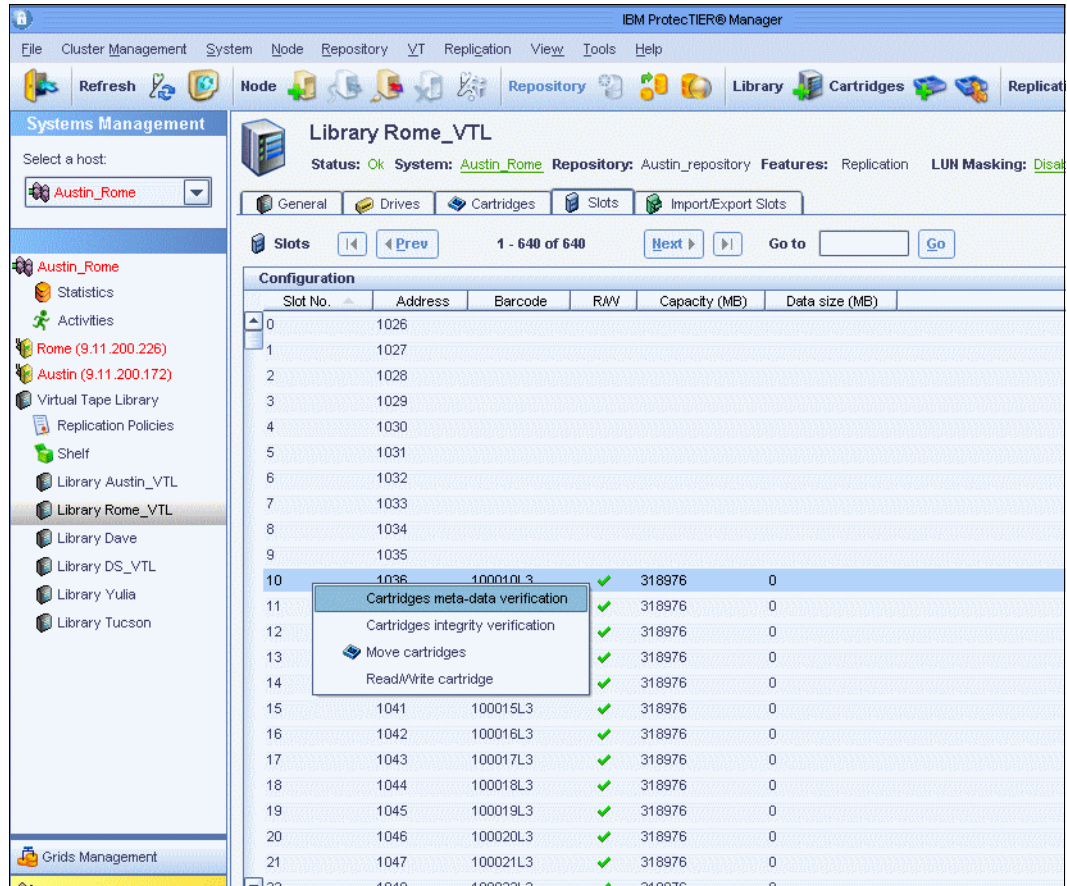

Figure 10-128 Metadata verification window
- Select the cartridges that you want to verify the metadata and select **VT → VT cartridges → cartridges metadata verification** (Figure 10-128).